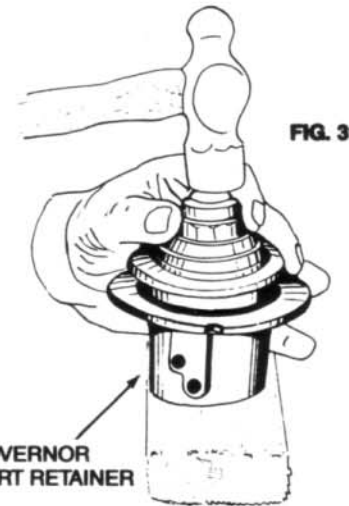

FIG. 39
- E. Place **DEAD BLOW PLUG** into **CUP DRIVER PLUG** and drive in with 24 oz. hammer until cup is seated to depth stop. (Fig. 39)